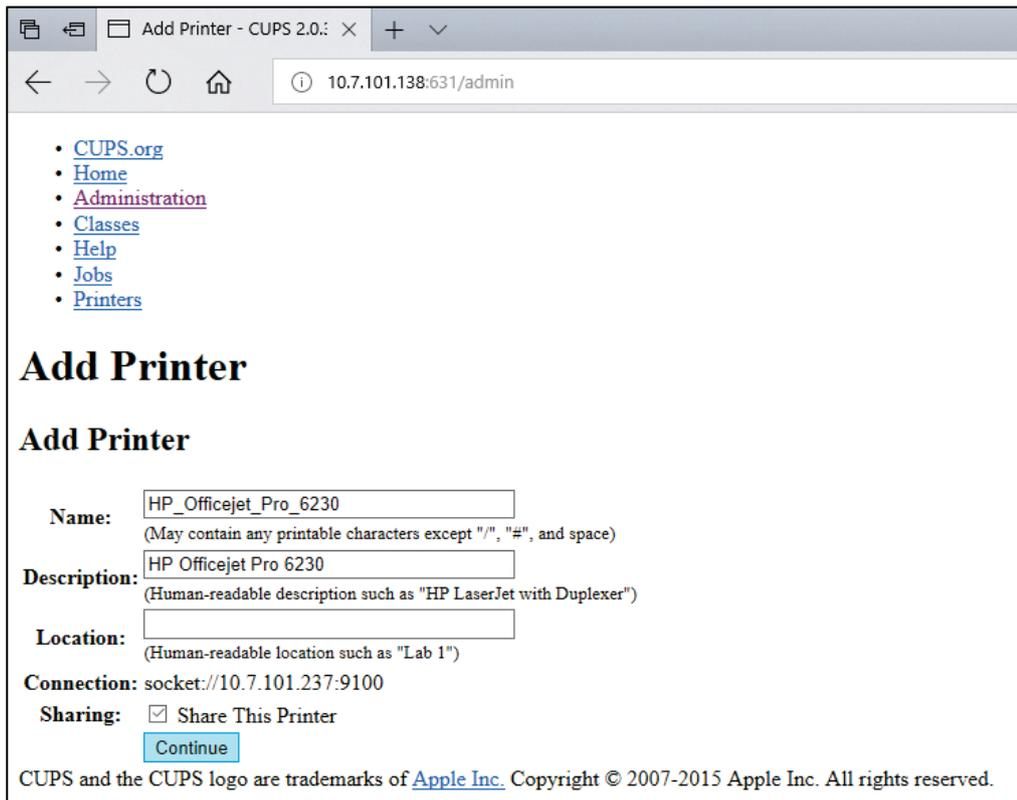

Figure 101. Add printer screen.
5. Select **Share this printer** and press **Continue** (Figure 101, next page).